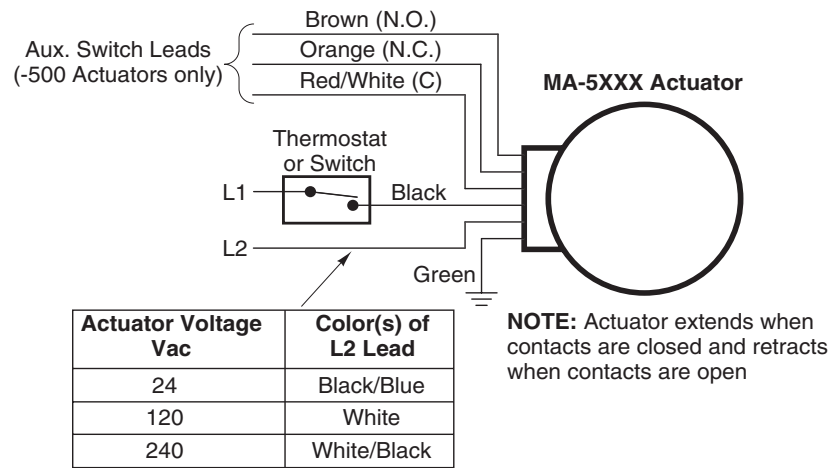
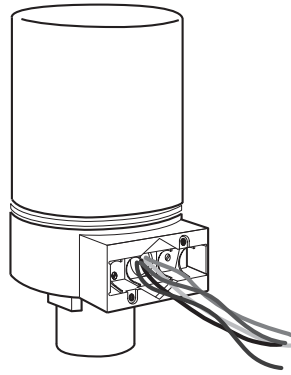

Figure-1 Typical Wiring for MA-5XXX Series Actuators.
Figure-4 Connection of Wire Leads (No Conduit).
Make connections as required. Refer to Figure-1 for a wiring diagram of a typical application. Refer to Figure-4 for a view of the actuator.
3. Make the required connections. Refer to Figure-1 for a wiring diagram of a typical application.